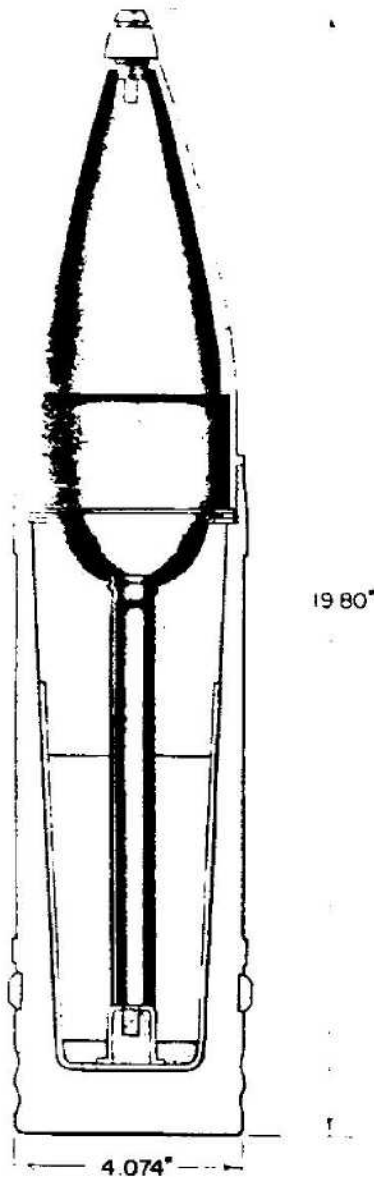

Figure 473—Hollow Charge Projectile, Type B, 105-mm, 10-cm Gr. 39 HL/B
**GERMAN NOMENCLATURE:** 10-cm Gr. 39 HL/B (Granate 39 Hohl Ladung/B). (See fig. 473.)